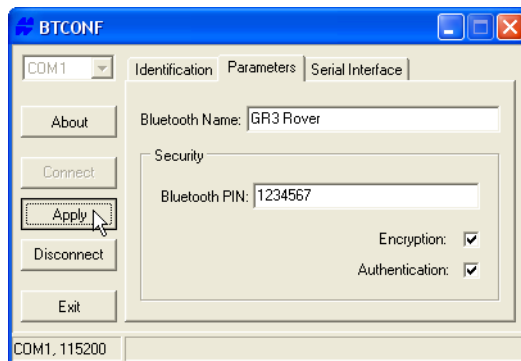

Figure 2-22. BTCONF Security Parameters
7. To set security parameters (Figure 2-22 on page 2-25), enter and enable the following, then click **Apply**: